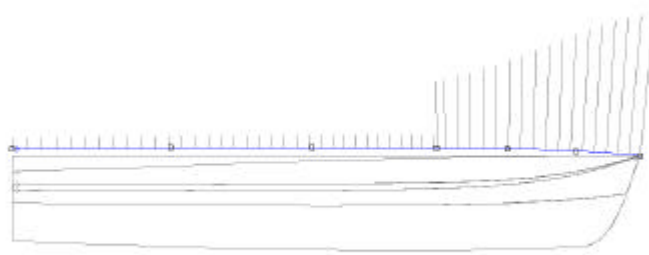

Figure 3-10: The Temp curve
2. In *S Side* view, shape this curve to represent the profile of the deck centreline. Do not move the vertices longitudinally or transversely. You might find it advantageous to use the *Porcupine* plot to see the curvature: click on the **Curvature** button. Since this curve is so flat, try inverting the curvature by clicking on **Settings – Invert Curvature Display**. This displays the relative straightness, rather than the relative curvature. (See Figure 3-10.)